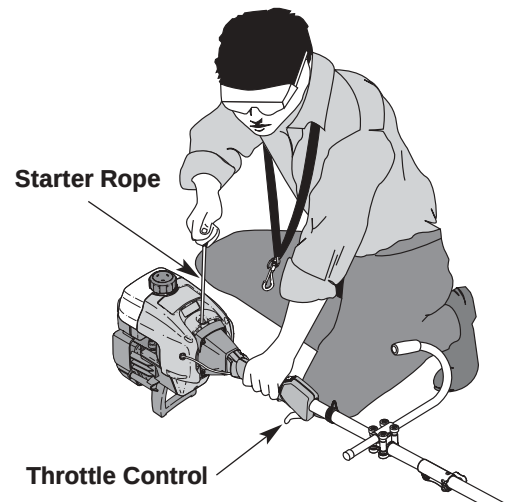

Fig. 18
WARNING: Avoid accidental starting. Make sure you are in the starting position when pulling the starter rope (Fig. 18). To avoid serious injury, the operator and unit must be in a stable position while starting.
5. While the unit is in the starting position (Fig. 18), **DO NOT SQUEEZE THE THROTTLE CONTROL**. Pull the starter rope briskly 5 times, making sure the EZ-Start™ lever is pushed to the left. If the engine starts to run before the fifth pull, proceed to step 6. If the engine does not start, go back to step 3.
1. Release your hand from the throttle control (Fig. 18). Allow the engine to cool down by idling.